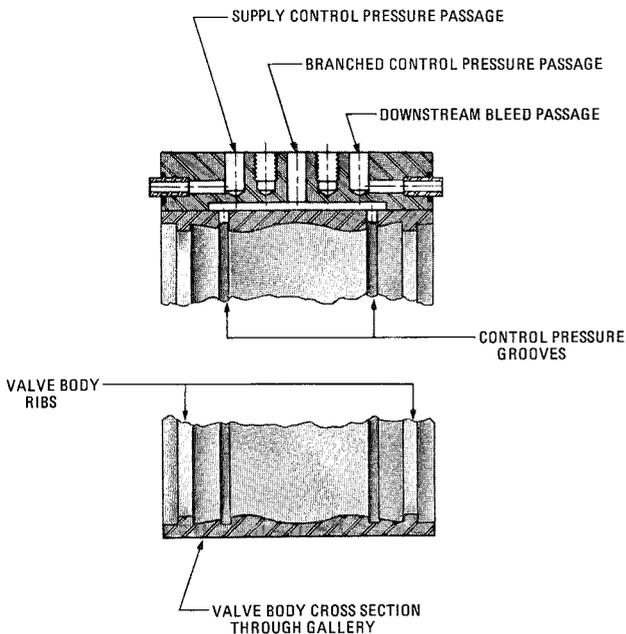

FIGURE 37
2. Inspect interior of valve body for unusual marks or corrosion. Clean thoroughly. Blow out gallery passages (**Figure 37**). The central control pressure passage has two interior ports. Be certain both have no blockage.